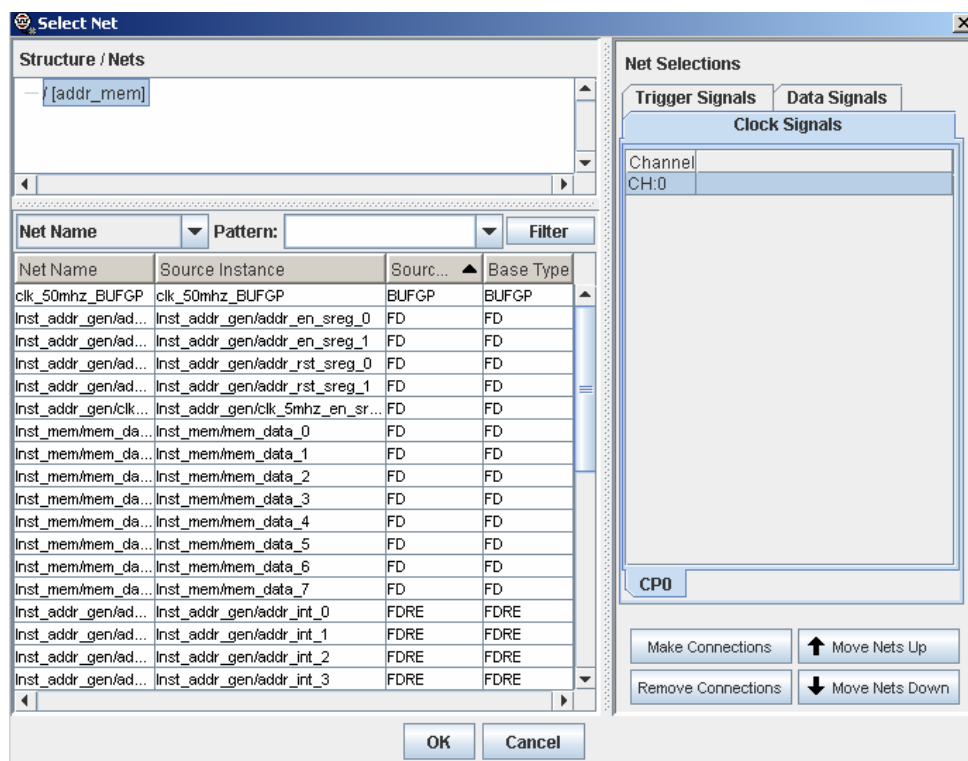

Figure 2.4 – Select Net window – Clock Signals tab
- ⑨ Now select **Net Connections** tab. In this tab clock net, trigger nets and data nets needs to be connected to ILA core.
- ⑩ In the Net Connections tab, click on **Modify connections** to make clock, trigger and data net connections.
- ❶ Select Net window appears (Figure 2.4).